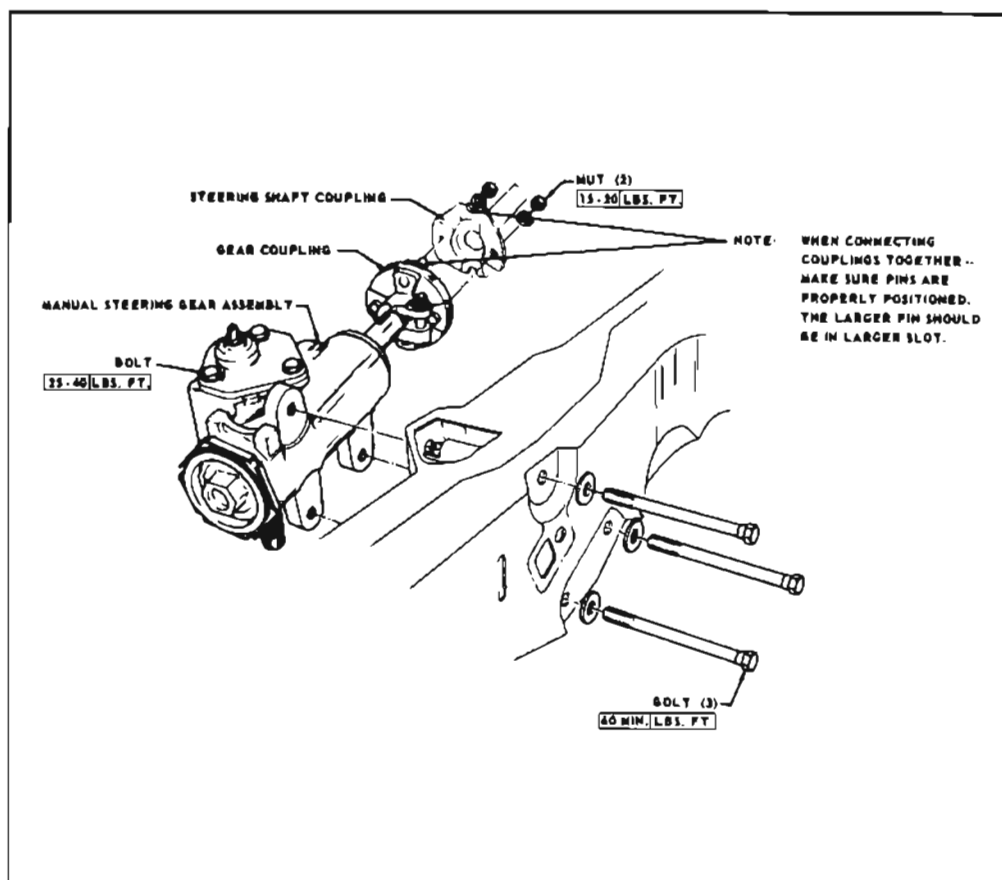

Figure 8-10—Manual Steering Gear Installation
3. Remove three steering gear to frame bolts and remove gear assembly. See Figure 8-10.